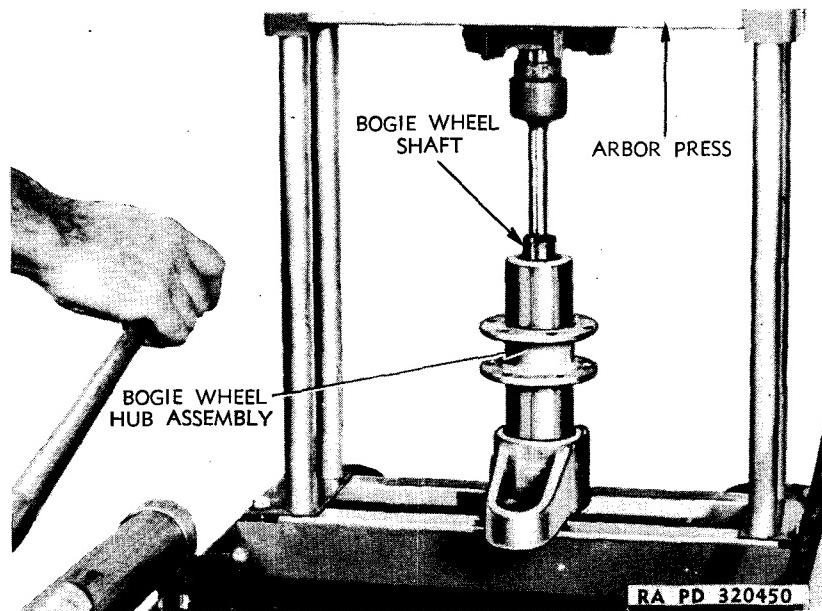

Figure 36 — Pressing Out Bogie Wheel Shaft
b. Remove Bearings and Oil Seals. Support hub assembly in press, and press shaft from hub by using arbor smaller than shaft spacer (fig. 36). This will also free inside and outside bearing spacers. Reach through hub with soft punch and tap bearing and seal from hub. Remove intermediate bearing spacer. Remove remaining bearing and seal.